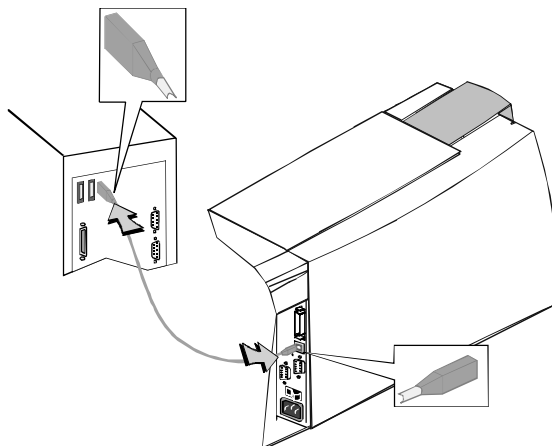

Figure 7-3: Connect the USB cable
- 1 Attach the flat end of the USB cable to the USB port on the PC (see Figure 7-3) or to a device attached to the PC through a USB port.